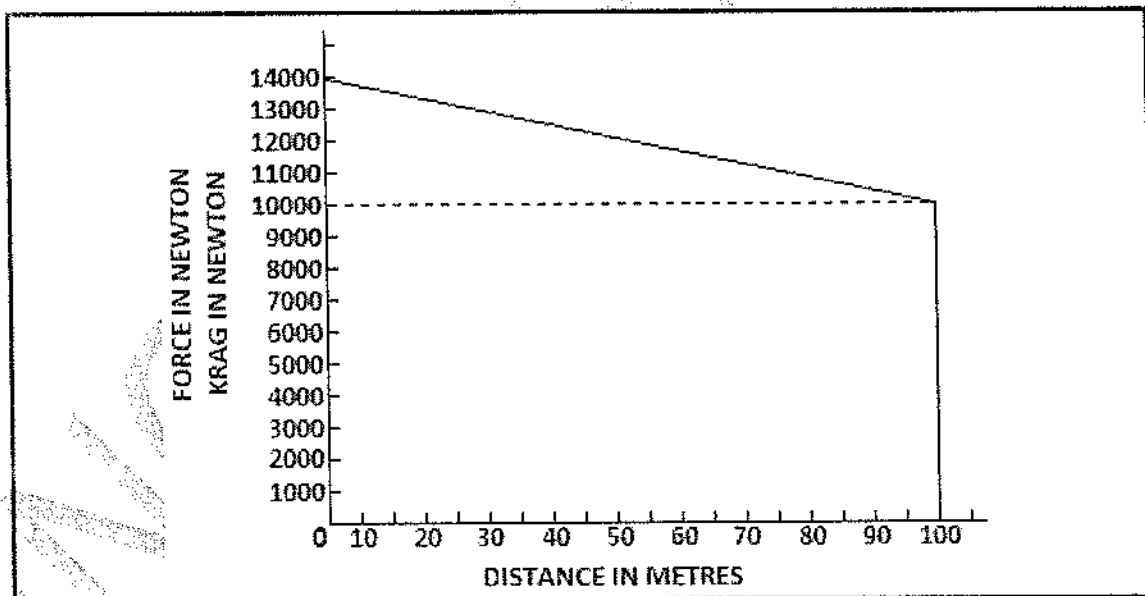

FIGURE 3
4.2 FIGURE 3 below shows a graph of a uniformly varying load against distance, obtained when a platform is lifted by a 100 m long cable which is wound onto a drum at the top. The force axis represents the force in the cable where it touches the drum and the distance axis represents the length of cable already wound onto the drum.
Calculate the following by making use of FIGURE 3: